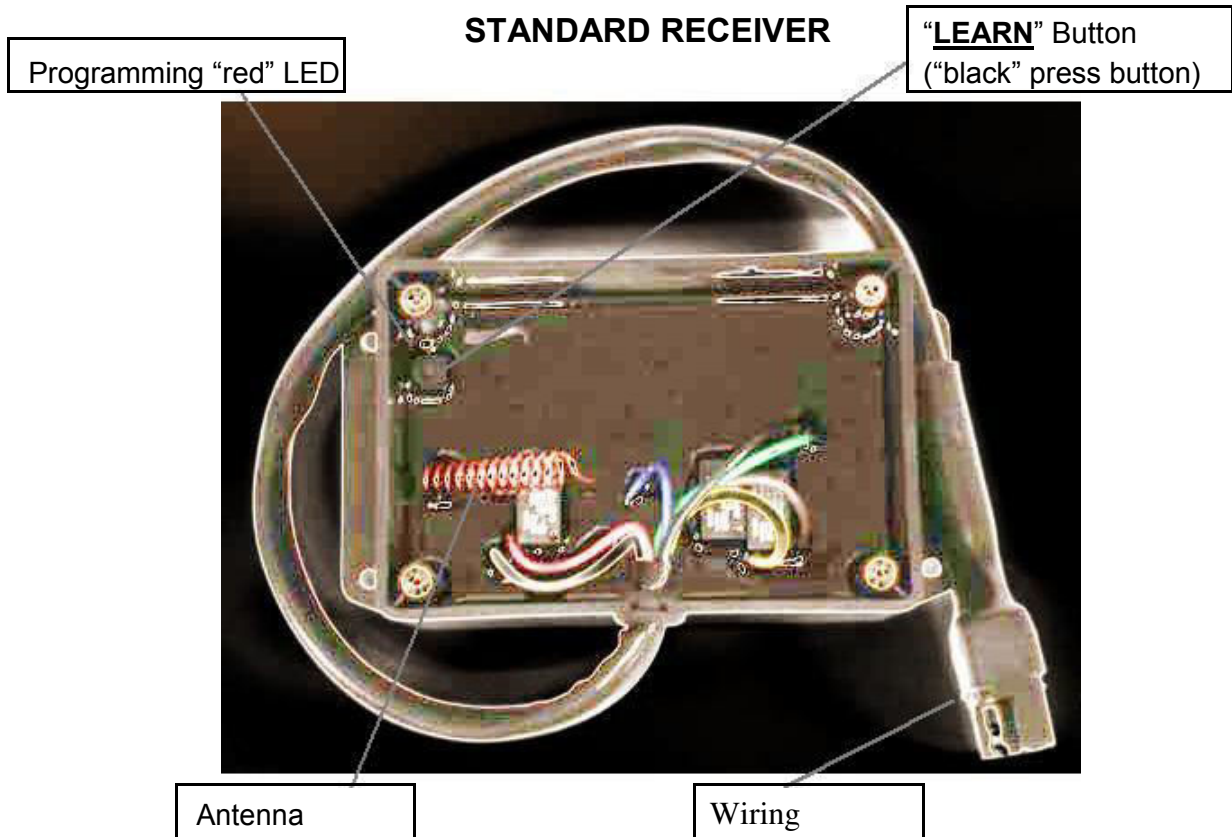

Fig. 2: Base Unit layout (Figure shown without Base Unit Cover)
5. On the Base Unit (see Fig. 2) press the black "**LEARN**" button. The "red" LED will start to blink (for approximately 15-17 seconds).
8. When Transmitter buttons are functioning properly, re-assemble the Cover on the Base Unit with the (4) screws. Your Wireless Controller is now ready to use!